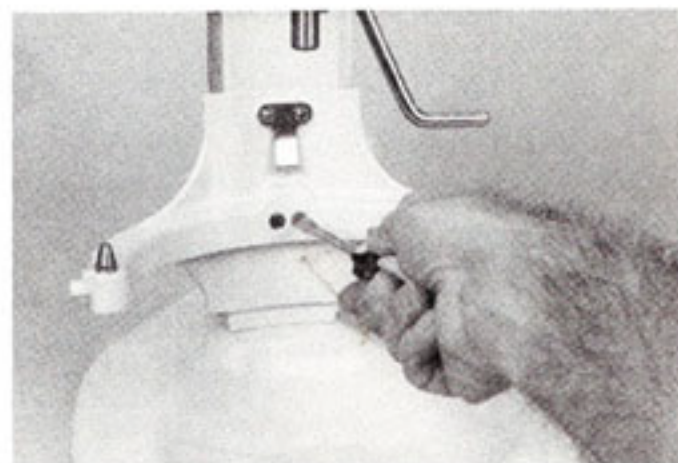
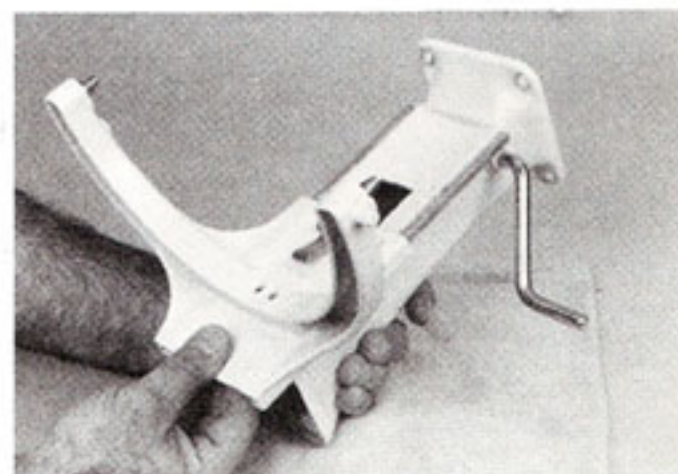
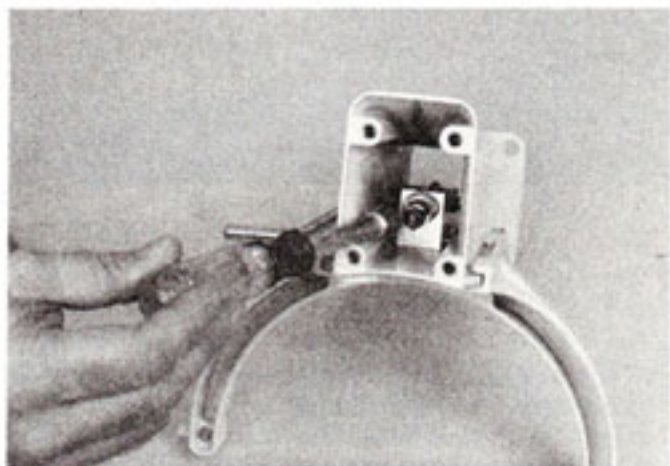

Fig. 89
Fig. 90
Fig. 94
E. Remove the two #10-24 x  $\frac{1}{2}$ " flat head screws (Fig. 89) and pull out the bowl support down and off the column (Fig. 90).
- I. Slide the new bowl support assembly on the column (Fig. 90). Place the bowl lift bracket in place and screw in the two #10-24 x 1/2" flat head screws. These screws must be very tight. Check the castle nut so that the tension will be great enough to snap the rod into the arm and hold it there (Fig. 94).